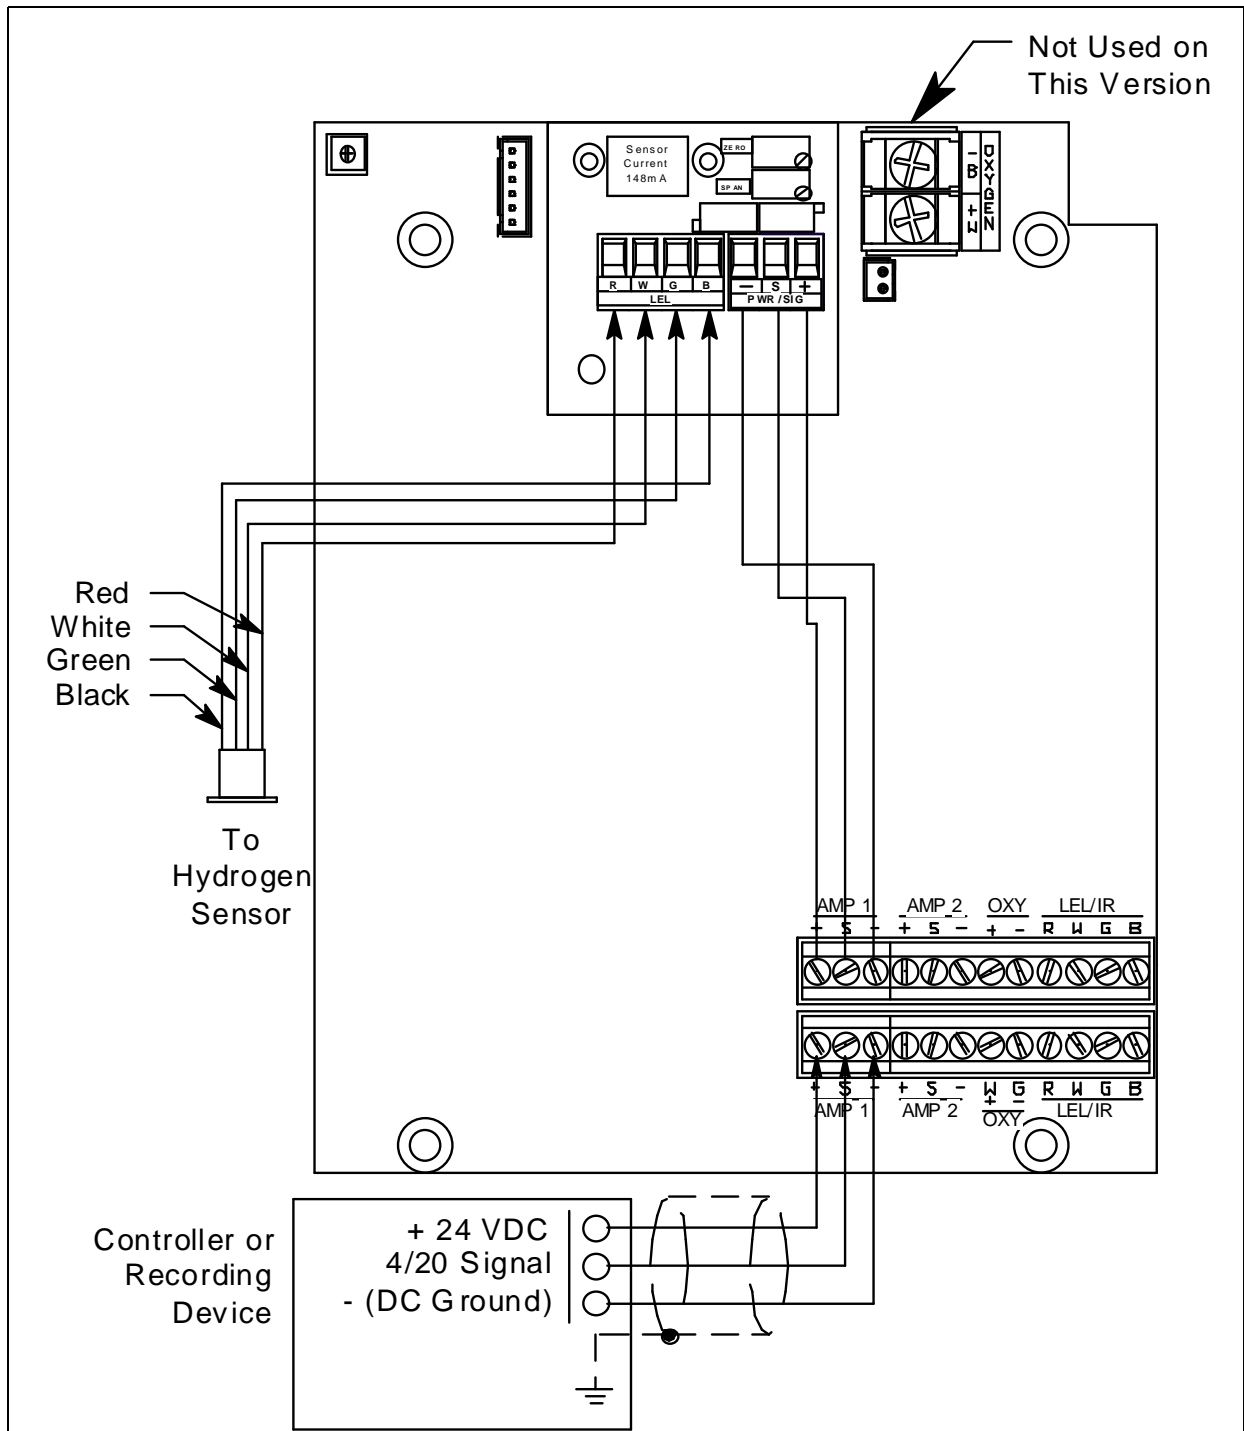

Figure 5: Wiring the Sample-Draw Detector to a Controller
5. Connect the cable to the sample-draw detector’s interconnect terminal strip as shown in Figure 5.
8. Connect the wires to the applicable detector/transmitter terminal strip at the controller as shown in Figure 5. Refer to the controller operator's manual and the controller detector head specification sheet for the 35-3001A-11 for detector/terminal strip connections specific to the controller.